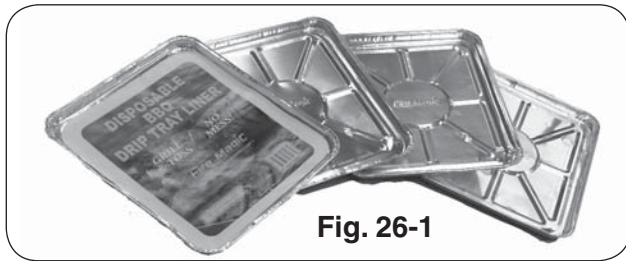

Fig. 26-1
Your grill includes a pack of four (4) Fire Magic® drip tray liners (Fig. 26-1). For your convenience in cleanup, place a liner into the drip tray before grilling.